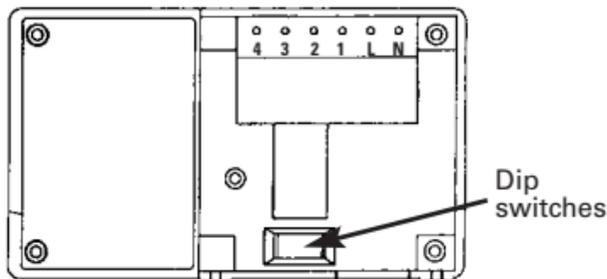

Fig. 1
2. The RWB29 is factory set to provide 2 on/off switching periods per day and each day will be the same, i.e. daily operation. To select the other styles of switching you will have to alter the dip switches which are to be found at the bottom rear of the unit (see Fig. 1) into the relevant position for the style of operation you require.